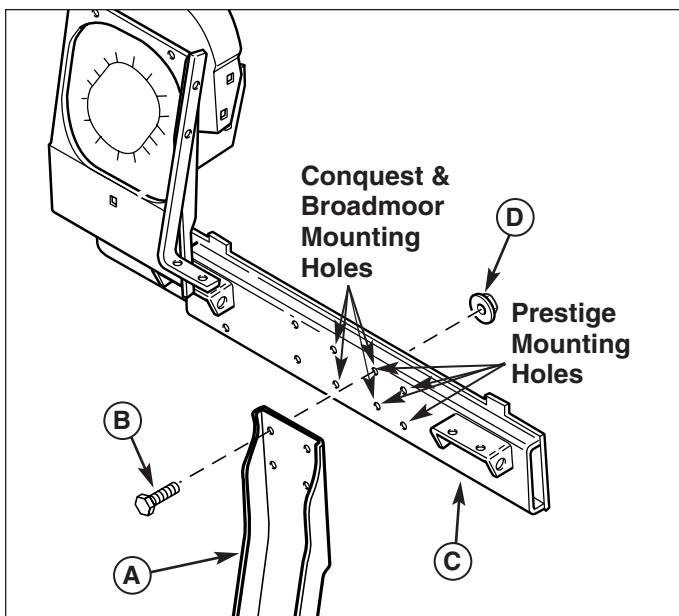

Figure 5. Assemble Catcher Frame
2. Bolt the upright support (A, Figure 5) to the horizontal support (C). Secure with 3/8-16 x 7/8 cap screws (B) and 3/8-16 whizlock nuts (D).